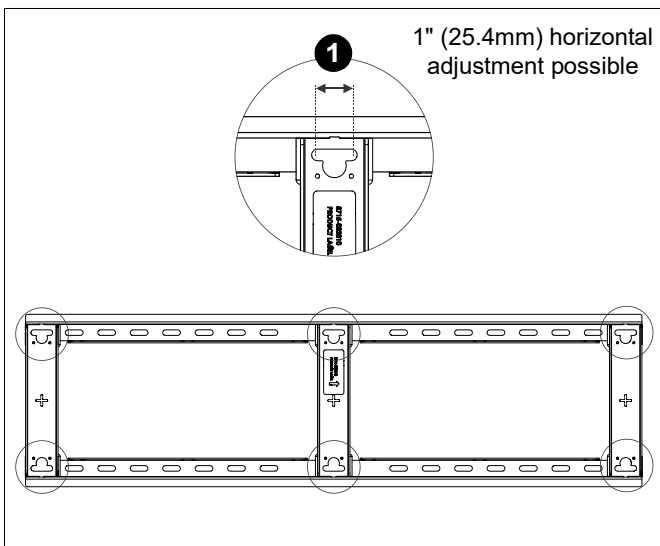

Figure 14
1. The mount wall brackets may be adjusted side to side at the point of attachment. (See Figure 14)